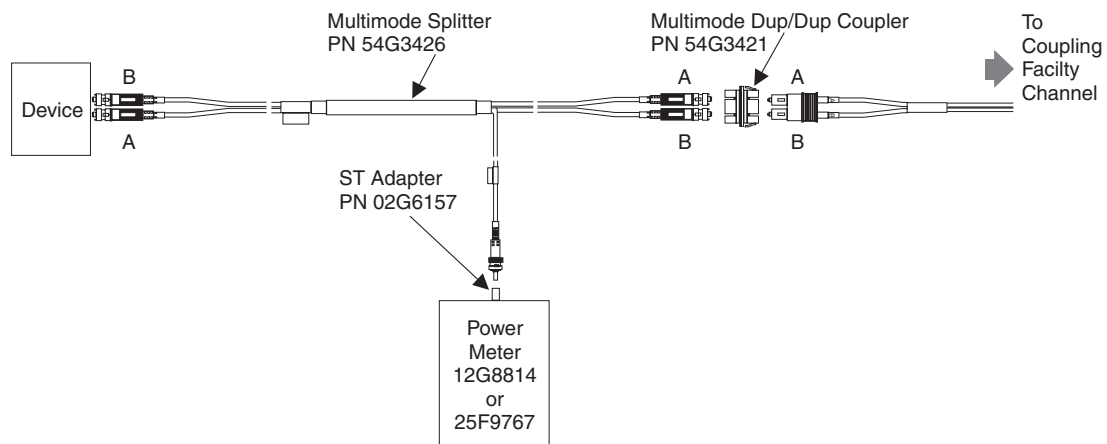

Figure C-12. Measuring Receive-In Power for a Multimode Coupling Facility Channel Link
5. If the transmitter power is within specification limits, connect the test equipment (see Figure C-12 on page C-11).
Make sure the connectors are clean; then assemble the test equipment (using Figure C-12 on page C-11) as follows: